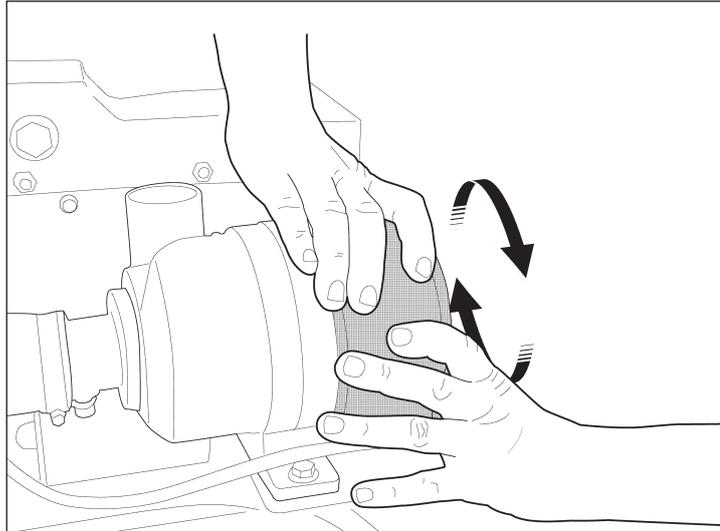

Fig. MW5: Removing the air filter cover
- ➔ Use both hands to turn the air filter cover to the left to remove it (*Fig. MW5*).